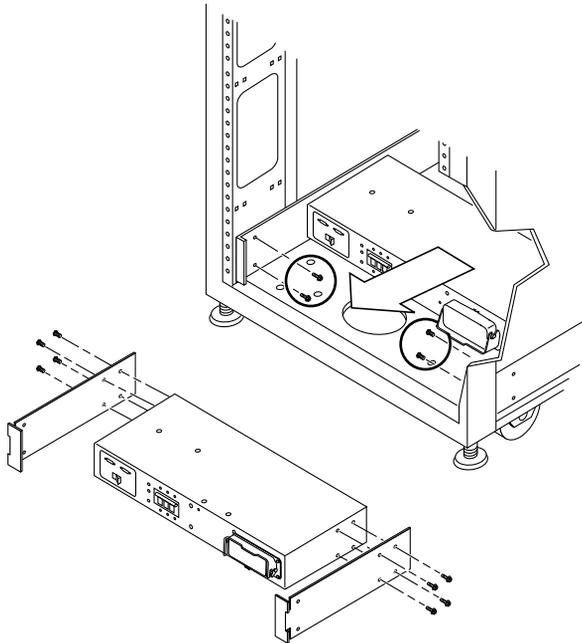

FIGURE 10-4 Removing and Replacing the Power Sequencer
2. **Disconnect the key switch adapter cable from the mating power supply connector at the rear of the power sequencer (FIGURE 10-4).**
- 3. Slide the power sequencer into the rack (FIGURE 10-4).**